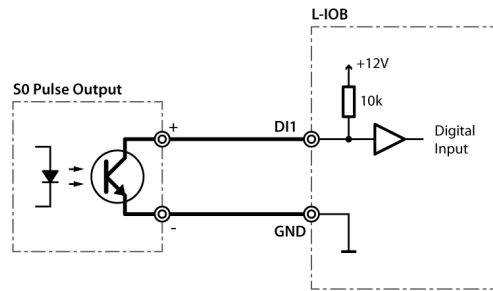

Figure 106: S0 pulse meter connected to DI
S0 pulse meters must be connected to digital inputs (DI) as shown in Figure 106.